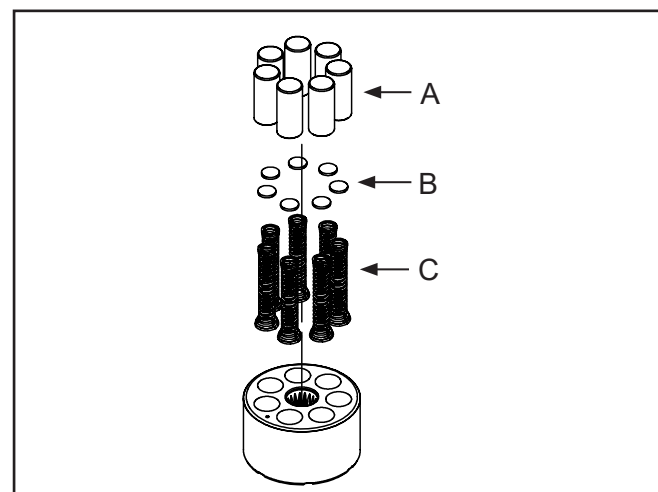

Figure 12
9. **(See Figure 12)** Check each piston for proper operation by pressing the pistons in and releasing them in the block bore. Disassemble the pump cylinder block. Check for piston/block wear in the cylinder bore. Inspect the pistons (A), piston springs (C) and thrust washers (B) for excessive wear or damage. NOTE: Thrust washers may be held in place in the piston by residual oil.